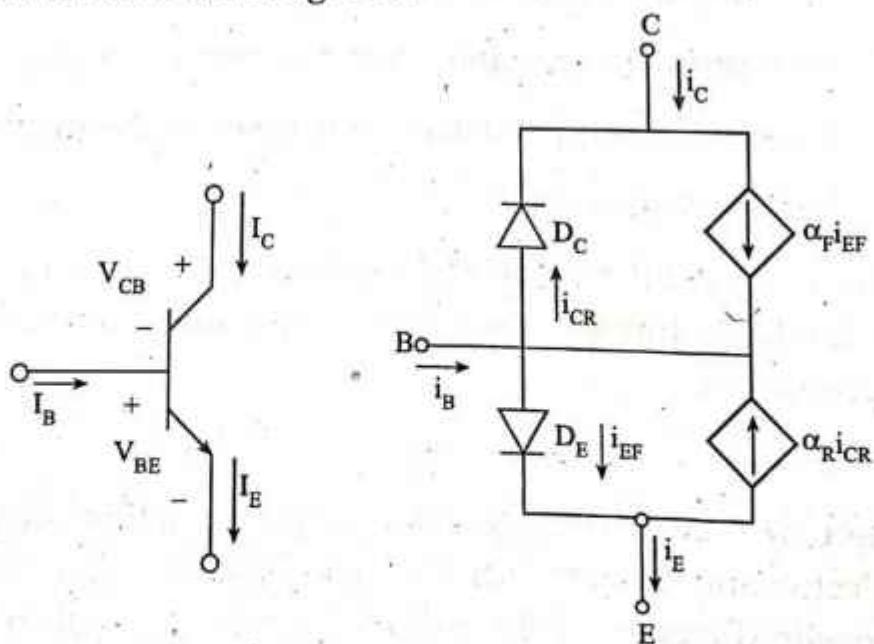

Fig. 2.10 Ebers-Moll Model for a transistor
The equation (5) can be explained as the parallel combination of a forward biased diode with the forward current  $i_{EF}$  and the reverse current generator  $\alpha_R i_{CR}$ . Similarly the equation (6) states that it is parallel combination of current source  $\alpha_F i_{EF}$  and the diode with reverse current  $i_{CR}$ . On the basis of the above equations the Ebers-Moll model of a transistor can be drawn as shown in fig 2.10.